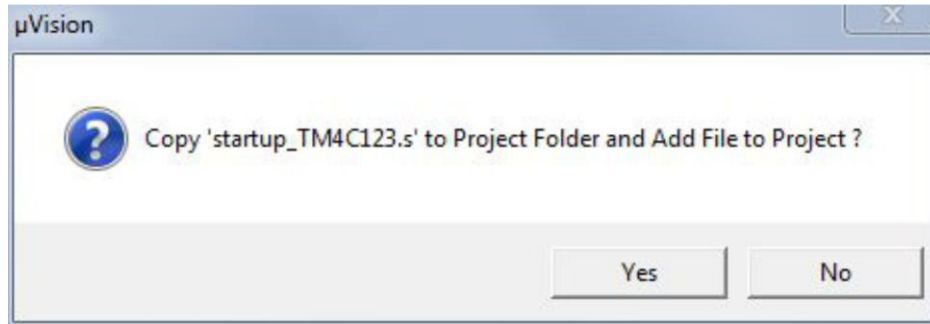

Figure 16
4. The tool asks whether you want to add startup code to the project (see Figure 16). Select “No” because we will add the startup code provided by the TivaWare library.